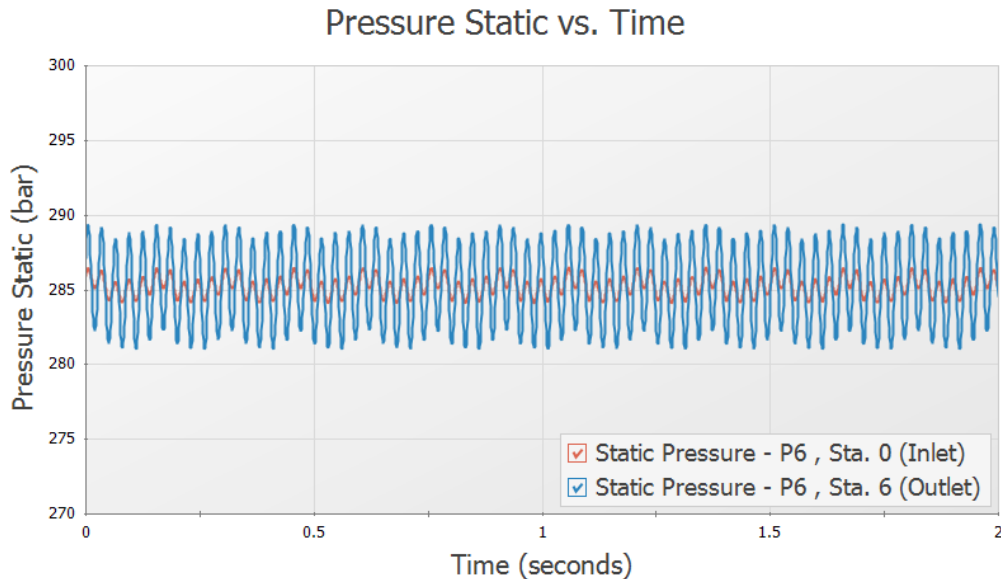

Figure 6.24 Pressure Oscillations at the Inlet and Outlet of Pipe P6 for 133 RPM
7. Right-click on the y-axis and uncheck the Auto Scale option. Set the Minimum to 270, the Maximum to 300, and the Major Val to 5. The resulting graph is shown in Figure 6.24.